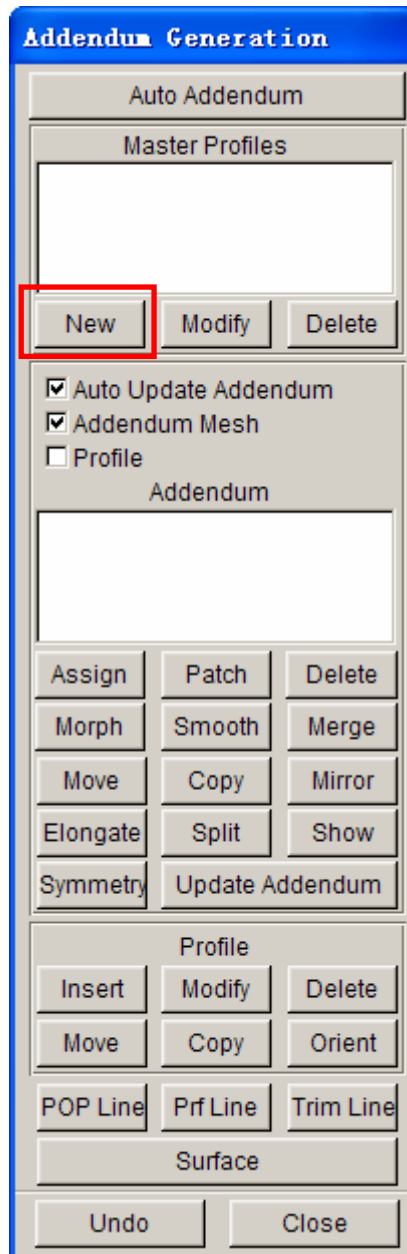

Figure 34 Addendum Generation dialog box
1. Click **New** button to create a new profile, as illustrated in Figure 34.